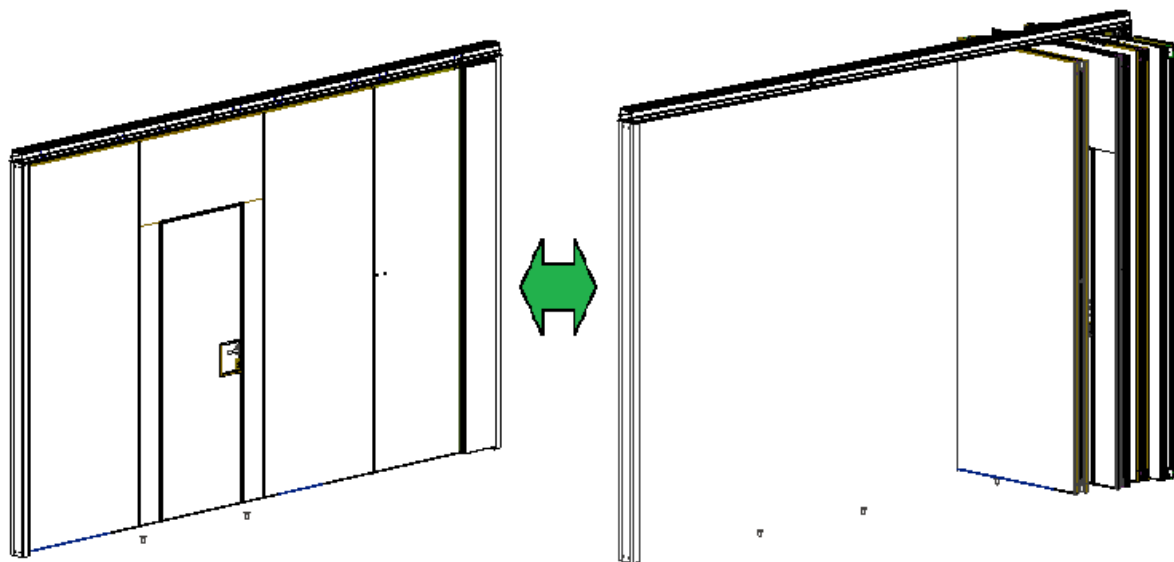

Fig.5. Layout of panels in a **1-point suspension** wall
- **1-point** - the panels are parked **along the axis** of the wall on one side (fig.5)
- **from the parking space** - for a 1-point suspension wall (Fig.5)
- **into the parking space** - for a 1-point suspension wall (Fig.5)
- **from the parking spaces** - for a wall with a 1-point suspension (Fig.5)